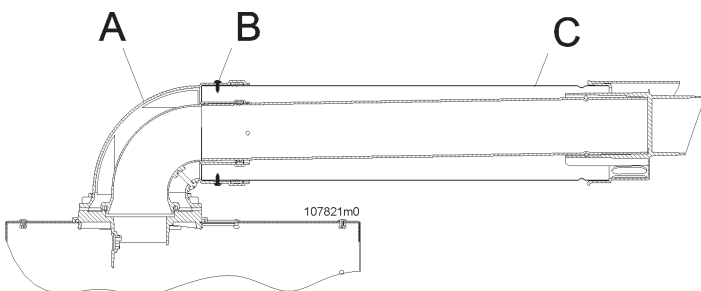

Figure 5-29 - Positioning the coaxial pipe
**ATTENTION !!!** Scrupulously follow the installation phases of the coaxial pipe as illustrated in figure 5-29. In particular: